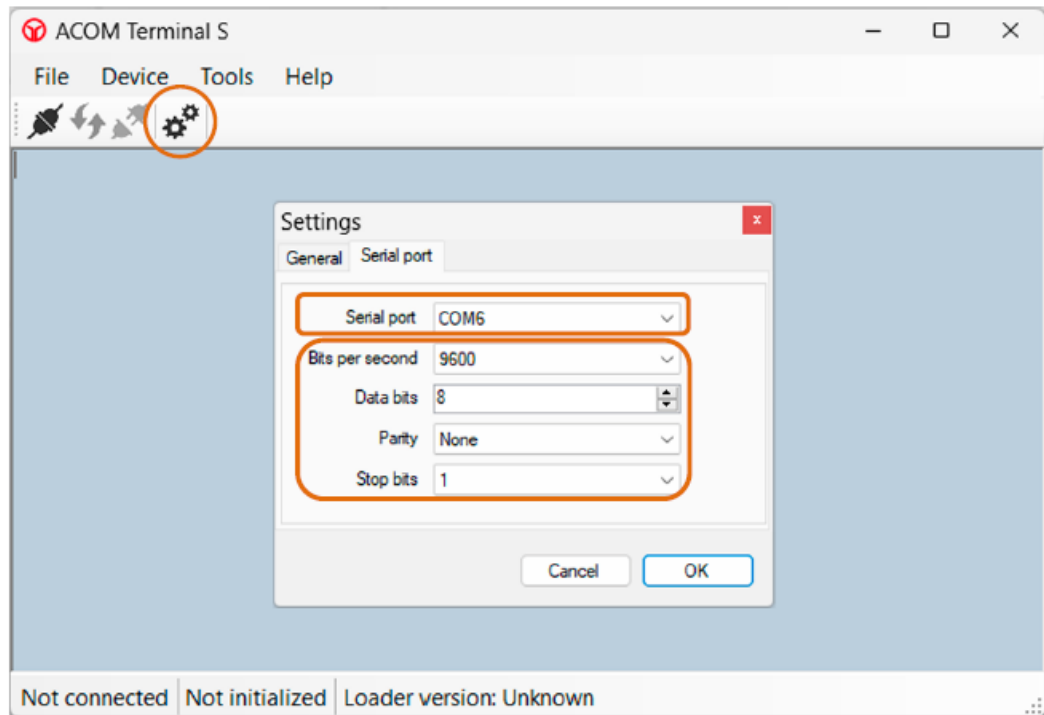

Figure 1-12 | Terminal S – Tools -> Setting -> Serial port menu
- In the Settings window -> tab Serial port, configure the settings as shown in Figure 1-12 | Terminal S – Tools -> Setting -> Serial port menu. For actual serial port number see STEP 1 – RS-232 Interface Settings on your PC: